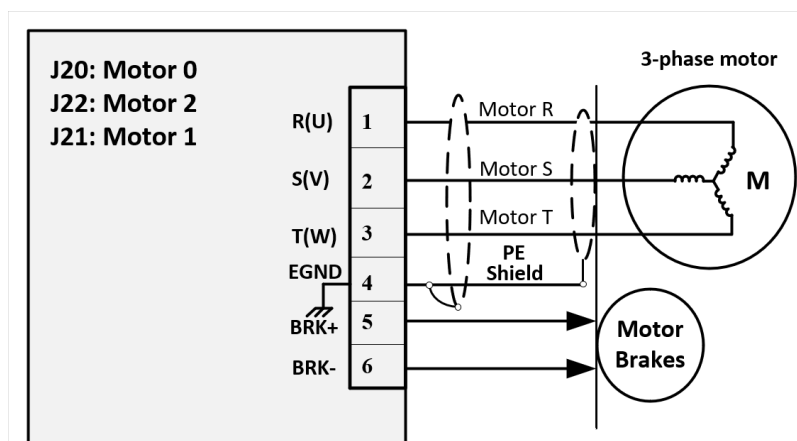

Figure 2-1. 3-Phase Motor Connection
A 3-phase motor connection is depicted in Figure 2-1. An optional motor filter is shown in series between the drive and the motor. A shielded cable should be used, terminated in the EGND pin which is internally connected to the chassis (PE). If needed, the shield/GND may be connected to the motor's chassis to provide a seamless common ground reference.